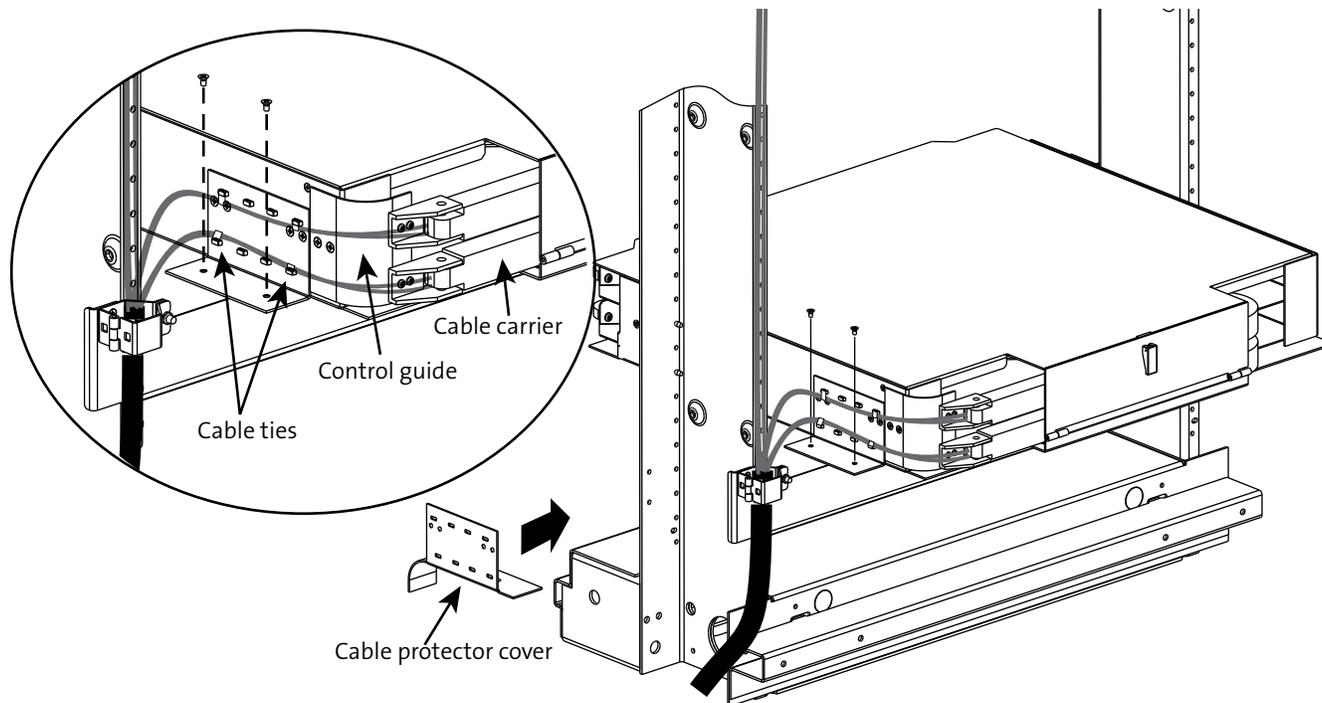

Figure 6
- Step 3:** Route buffer tubes for each shelf into the OMS housing from the rear (Figure 6).
Step 4: Use cable ties (provided) to retain buffer tubes or subunits to the cable tie anchors on the cable protector bracket (Figure 6).
Step 5: Attach the cable protector cover to protect exposed cable as shown in Figure 6.